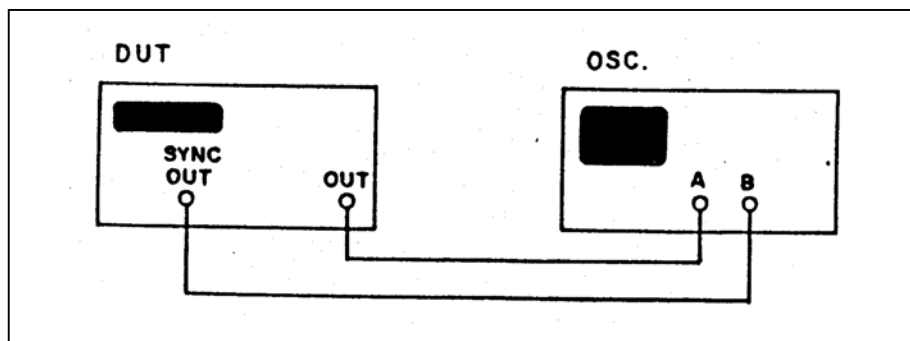

Figure 7-3. Systems Delay Adjustment.
1. Connect the test instruments as described in Figure 7-3.